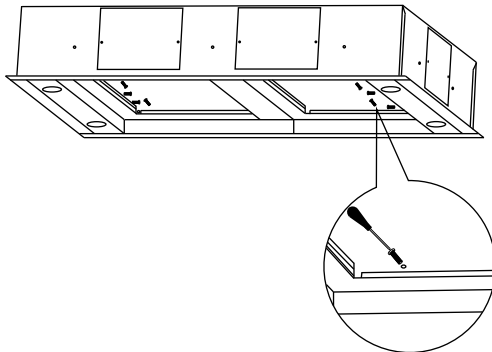

Fig 6
3. Hold the hood up into the cut-out in the ceiling and fix the hood at the 10 fixing points (Fig 6).